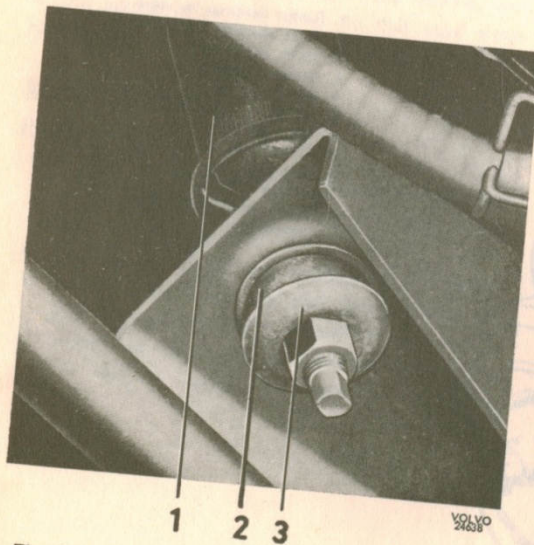

Fig. 9-6. Lower attachment of rear shock absorber
4. Loosen the lower shock absorber attachment (Fig. 9-6) and the upper attachment for the shock